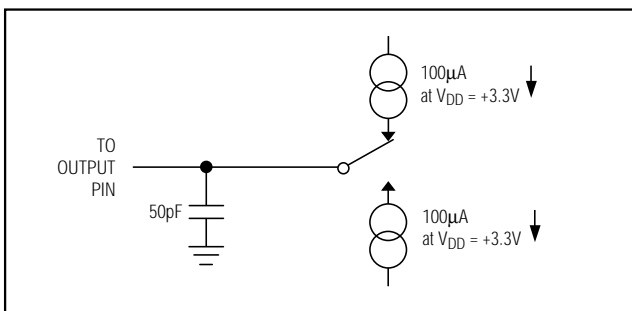

図1. バス放棄時間及び $V_{OL}$ と $V_{OH}$ レベルのための負荷回路
**Note 25:** Measured with the load circuit of Figure 1 and defined as the time required for the output to cross the  $V_{OL}$  or  $V_{OH}$  limits.
**Note 27:** Derived from the time taken by the data output to change 0.5V when loaded with the circuit of Figure 1. The number is then extrapolated back to remove effects of charging or discharging the 50pF capacitor. This ensures that the times quoted in the timing characteristics are true bus-relinquish times and are independent of external bus loading capacitances.